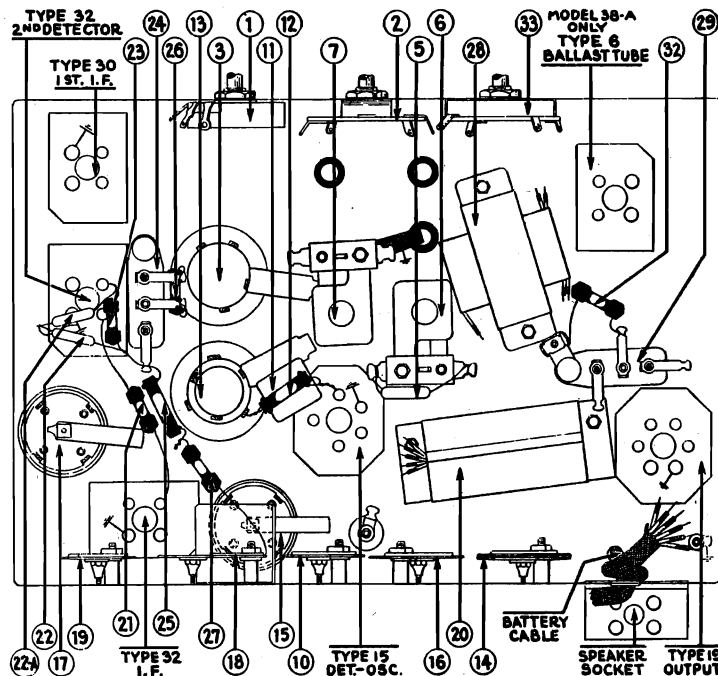

Fig. 2—Bottom View of Chassis, Showing Parts.
The location of the compensating condensers may be learned by referring to Fig. 3 of the present bulletin for their electrical location in the circuit; to Fig. 2 of this bulletin for the physical location of the compensating condensers underneath and at the rear of the chassis.
The intermediate frequency compensating condensers first should be adjusted. These condensers are identified as ⑩, ⑪, ⑫, and ⑬; they are situated at the rear of the chassis, and are shown in Fig. 2. They are accessible from the rear of the chassis. The intermediate frequency is 460 K.C.